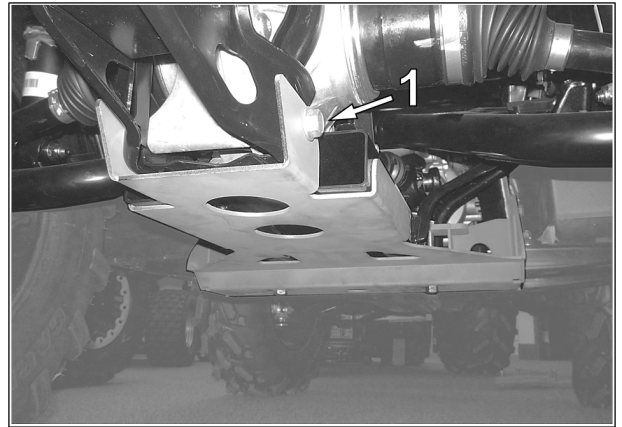

Fig. 7
- Tighten the rear differential mounting bolt (1) installed earlier at the back end of the rear anchor plate, to 50 N•m [37 lb•ft]. See Fig. 7